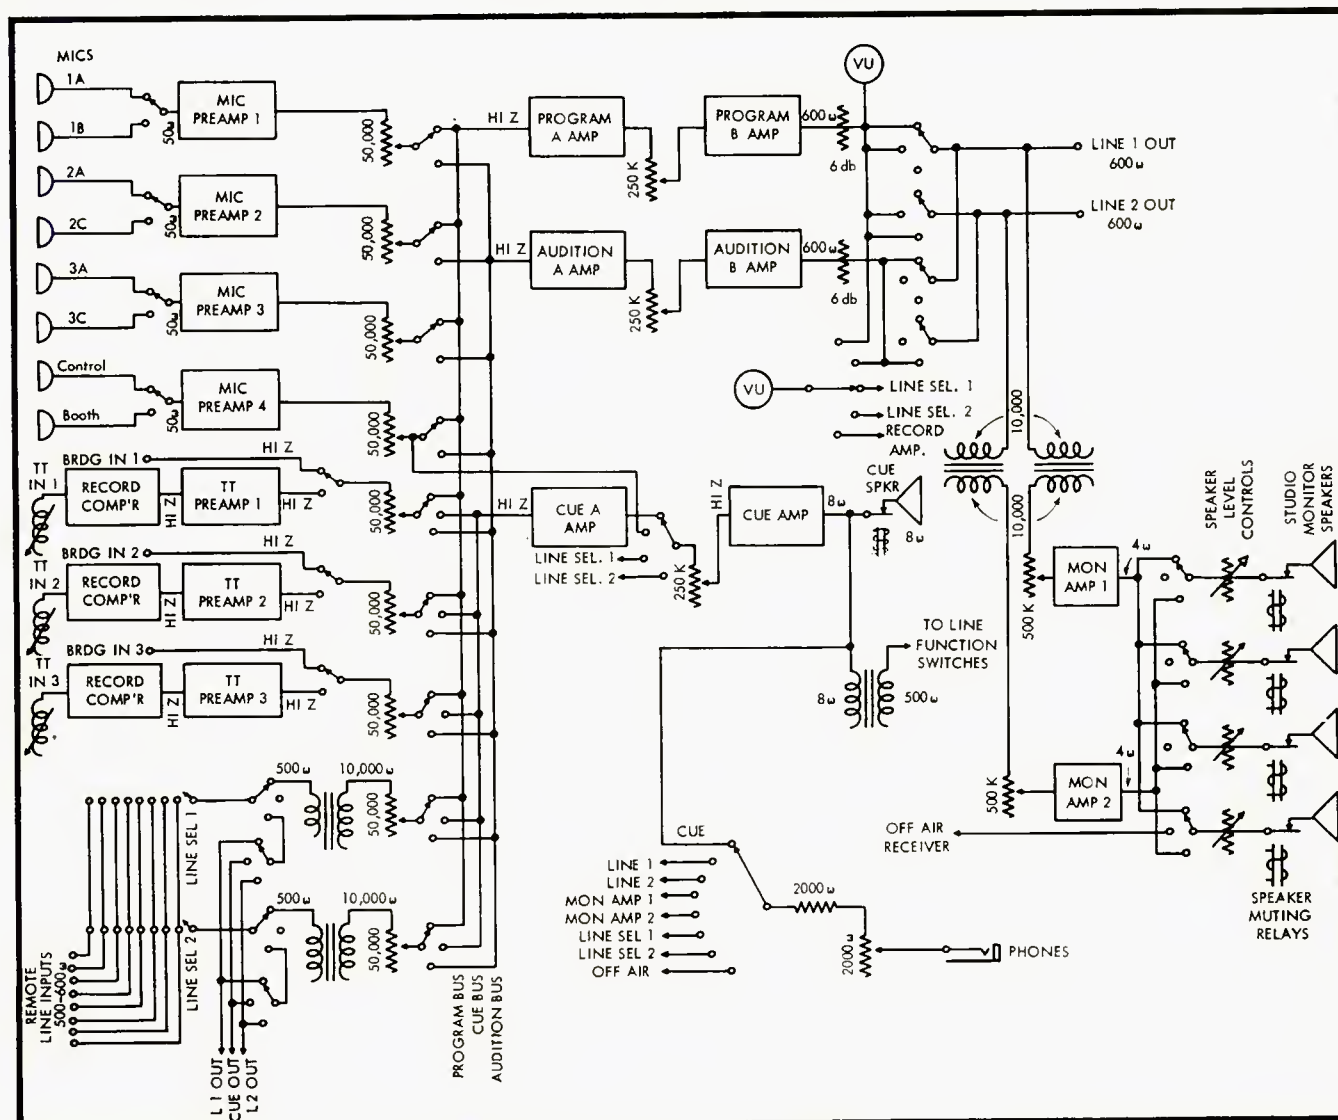

Fig. 7. Complete block schematic of the control equipment shown in Fig. 6.
Fig. 6. Showing the quantities displayed in Fig. 7: (A) fed from a pentode, or high resistance source, the current is sinusoidal; (B) with a lower source resistance, neither the voltage nor current is sinusoidal.
Fig. 7. Waveforms in different practical circuits: (A) with a pentode or high resistance source, the current is sinusoidal; (B) with a lower source resistance, these waveforms are typical.
varies at any instant. The waveforms produced are shown at (A) in Fig. 7. Current and voltage can of course be displayed on the scope, but the magnetic flux we can only deduce.